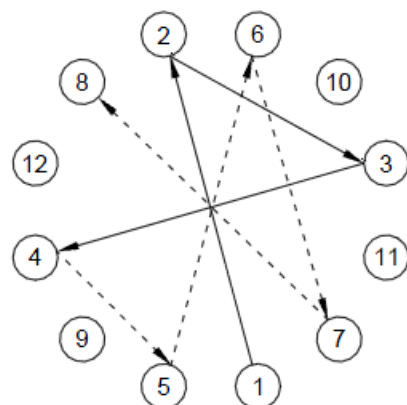

Fig.14. Sequence of Tightening
- Tighten the other bolts in the sequence shown Fig.14.